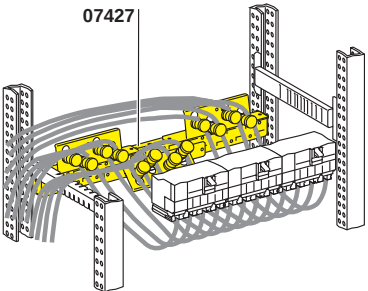

Fig. 3
- on 1 or 2 rear cross-members **07427** (fig. 3 and 4).